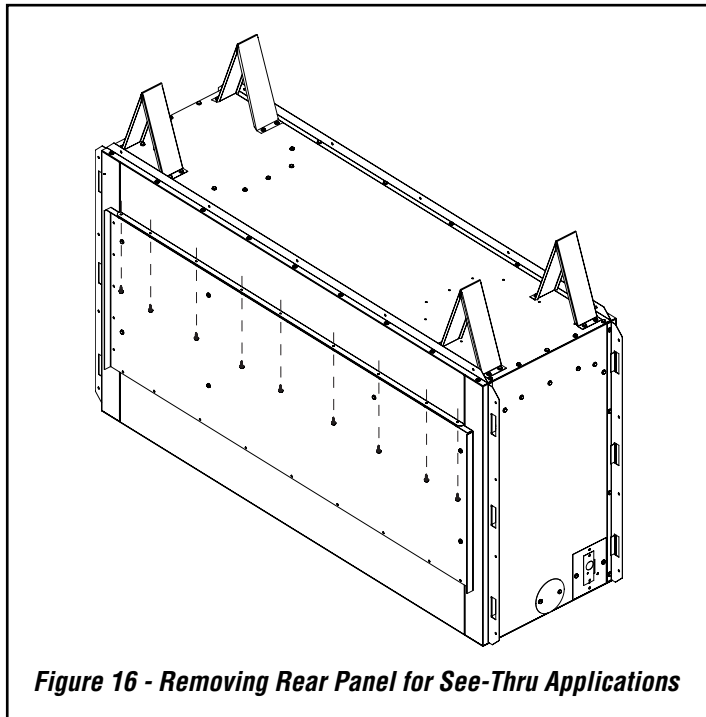

Figure 16 - Removing Rear Panel for See-Thru Applications
1. In the rear of the fireplace, locate screws at top of rear panel and remove as shown in **Figure 16**. Discard screws and rear panel.